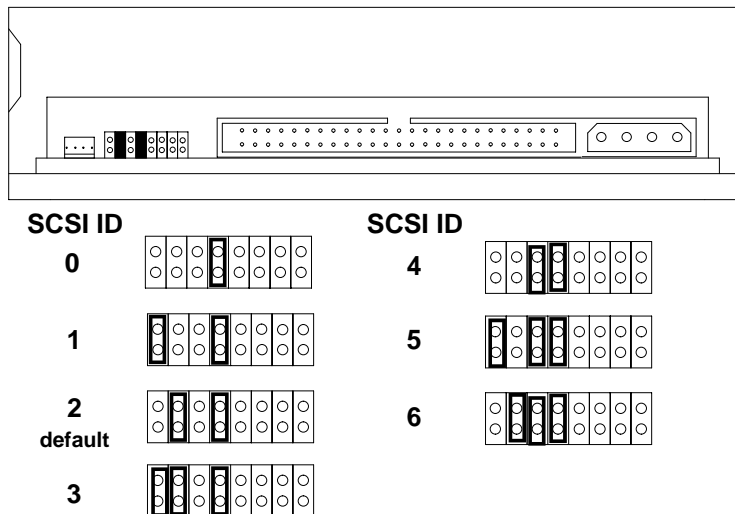

Figure 1-3. SCSI Address Settings
2. Locate the address jumpers on the rear of the CD-ROM drive, as shown in Figure 1-3.
3. Set the drive's SCSI target address to an address that's not used by another SCSI device. Use jumpers, as shown in Figure 1-3.